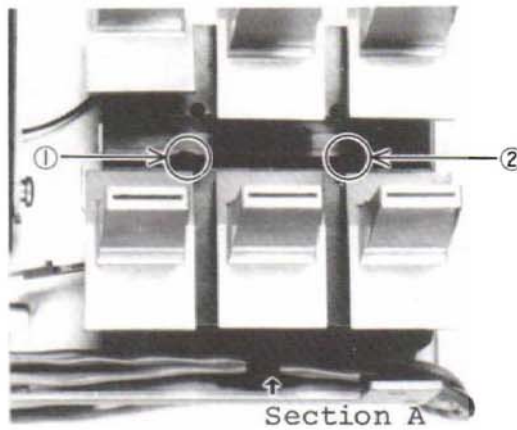

Fig. 11
- i. Remove the three shielding wires supported in Section A in Fig. 11 from its supporting part.
Remove the screws (2.6 x 0.45 x 12) of Fig. 11.